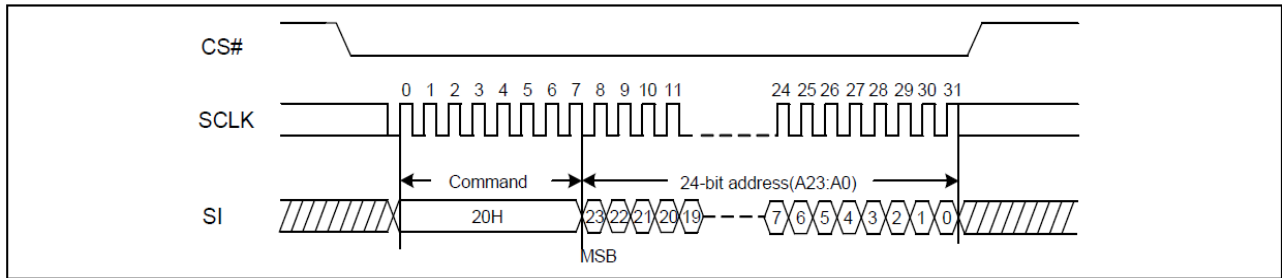

Figure19. Sector Erase Sequence Diagram
The Sector Erase command sequence: CS# goes low sending Sector Erase command 3-byte address on SI CS# goes high. The command sequence is shown in Figure19. CS# must be driven high after the eighth bit of the last address byte has been latched in; otherwise the Sector Erase (SE) command is not executed. As soon as CS# is driven high, the self-timed Sector Erase cycle (whose duration is tSE) is initiated. While the Sector Erase cycle is in progress, the Status Register may be read to check the value of the Write In Progress (WIP) bit. The Write In Progress (WIP) bit is 1 during the self-timed Sector Erase cycle, and is 0 when it is completed.